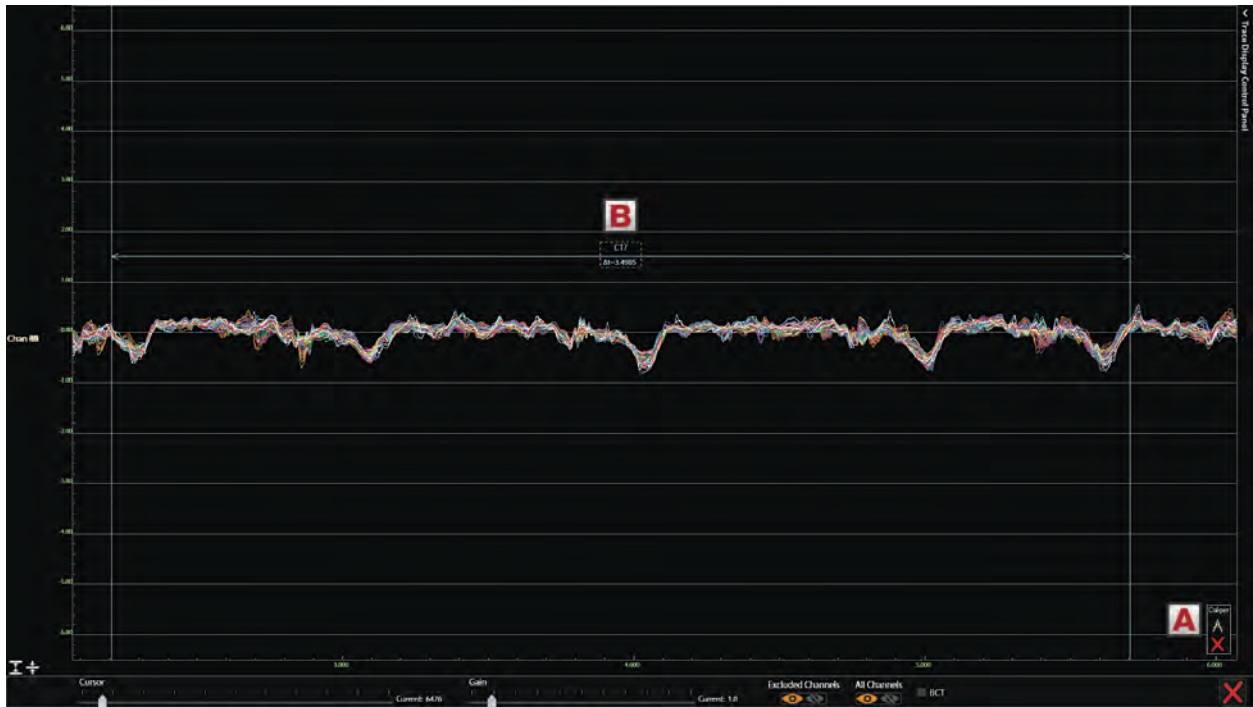

Figure 12-5. Adding Calipers. A. Add or delete calipers. B. Caliper label with yellow dashed box indicating it has been selection.
- Calipers are added by clicking on the “+” symbol in the bottom right corner of the Overlay Window. Multiple calipers may be added by clicking the “+” again. Calipers may be removed by clicking the “x” symbol. (Figure 12-5, A)
- select Calipers into focus on the Caliper label. A yellow dashed box will appear around the label to designate that it is selected. (Figure 12-5, B)